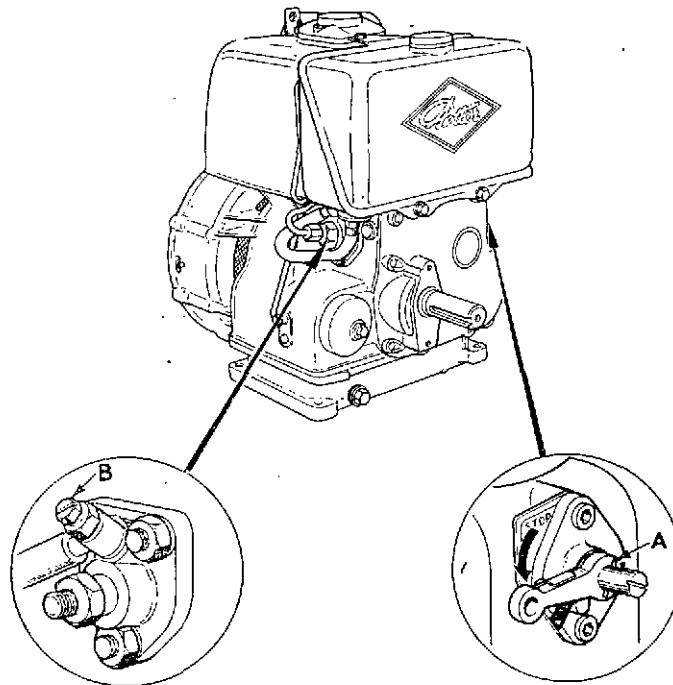

Fig. 3
10. To prepare a new or overhauled engine for starting (Fig. 3)